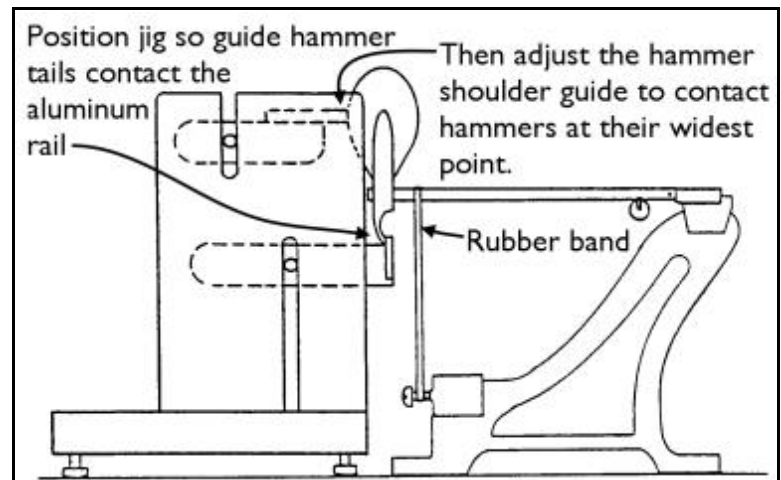

Figure 12: Adjusting hammer hanging jig to guide hammers
- Set the action stack on the bench with the wippen screws toward you, and lift up all the shanks of one section. Set the hammer hanging jig between you and the action and drop the two new guide hammers onto the lower deck as shown in Figure 12. Adjust the lower deck parallel to the action rail, i.e. both ends of the deck should be the same height above the bench top. Make sure the tails contact the aluminum edge of the lower deck.